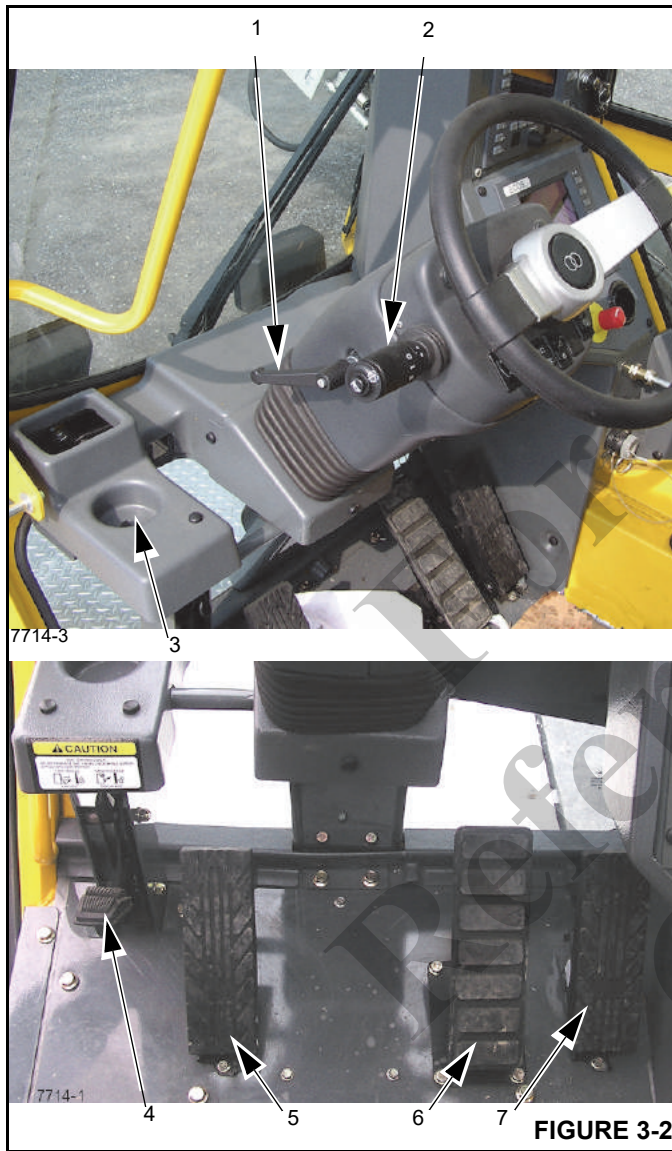

FIGURE 3-2
Refer to Figure 3-2.
Location to hold a beverage container (3) (Figure 3-2).